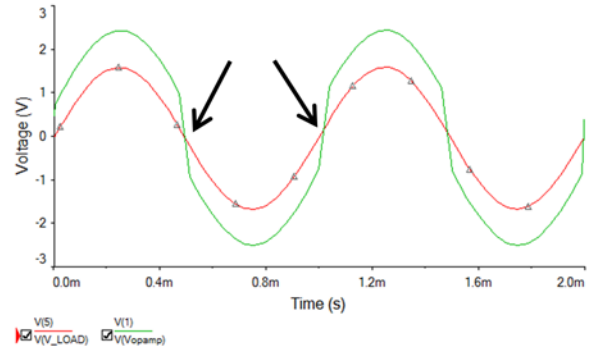

Fig. 5: The arrows show where the op amp output voltage must change abruptly.
- The Vopamp waveform should have very steep changes when V_{out} has zero-crossings (see Fig. 5).